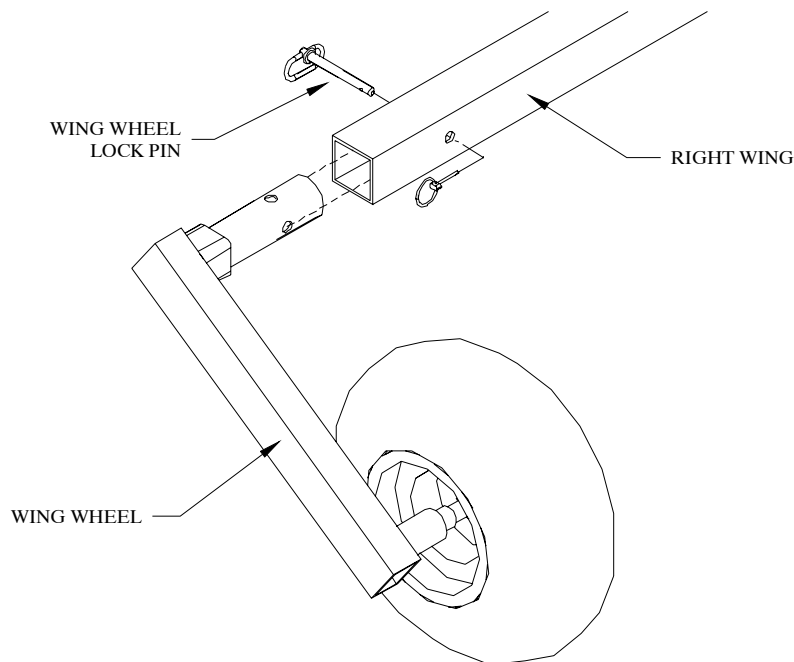

Figure 7
4. Mount the wing wheels on the wing wheel brackets. Refer to Figure 7.
5. Insert the wing wheel assemblies (they have been labeled 'L' for left and 'R' for right) into the ends of the wing tubes until the holes for the wing wheel lock pins align. Refer to Figure 7. Insert the wing wheel lock pins and lock the wing wheel assemblies into place.